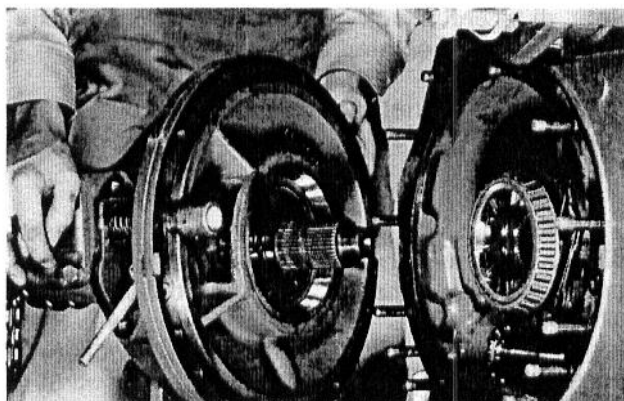

FIG. 9 — R.H. AXLE HOUSING ASSEMBLY
10. Remove the brake pedal brackets and work the axle housing assembly free of the center housing. Refer to Figs. 9 or 10.
Install the *right-hand* axle housing assembly *only* after carrier bearing pre-load has been determined as described in "Carrier Bearing Pre-Load Adjustment — Planetary Axles". Refer to Figs. 9 and 10.